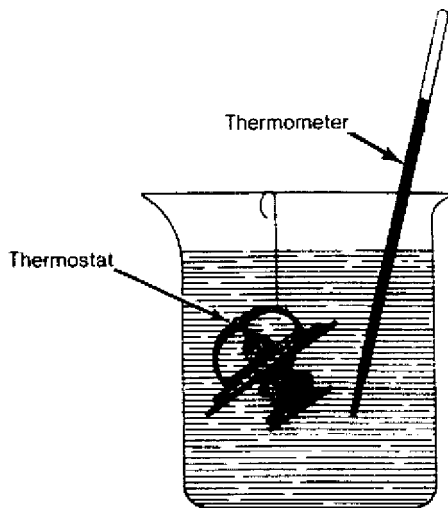

Fig. 1: Testing Thermostat in Anti-Freeze/Water Solution
1) Visually inspect thermostat for corrosion and proper sealing of valve and seat. If okay, suspend thermostat and thermometer in a 50/50 mixture of coolant and water. See Fig. 1. Do not allow thermostat or thermometer to touch bottom of container. Heat water until thermostat just begins to open.